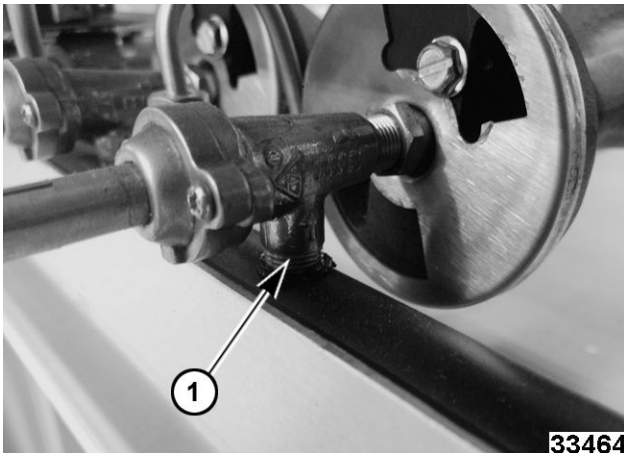

Fig. 23
- Remove top burner control valve (1, Fig. 23) from manifold.